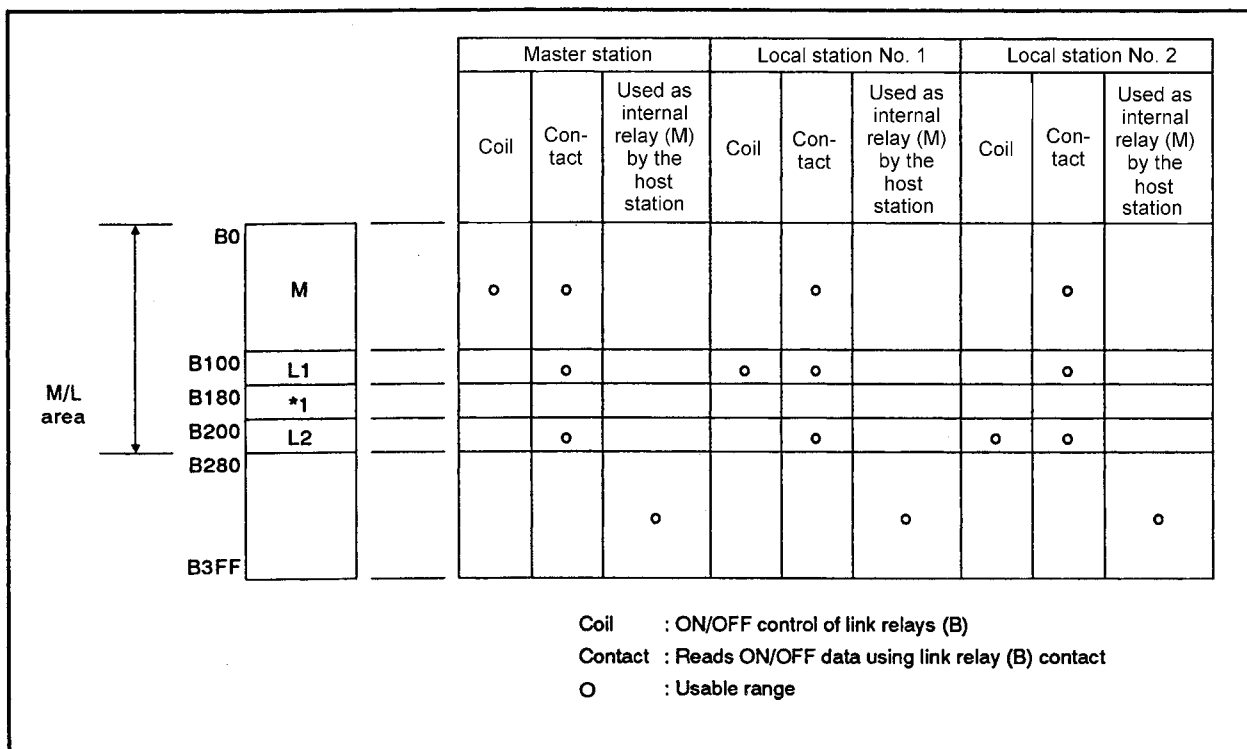

Fig 7.9 Link relay (B) assignment example
(1) Assignment of link relay (B)
- (a) Fig 7.9 shows the case when assigning 256 points to the master station, 128 points to local station No.1, 128 points to local station No.2, and 128 points empty area between local station No.1 and local station No.2.
- (b) The empty area marked with *1 in the M/L area in Fig 7.9 cannot be used as a substitute for internal relay (M) in the master station and all local stations. The M/L area is the range (B0 to 27F) from the minimum device number to the maximum device number assigned by the link parameters.
(2) Assignment of link register (W)